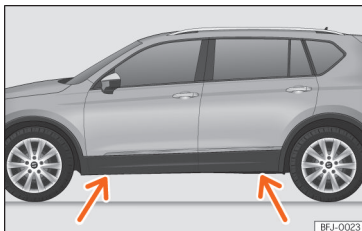

Fig. 254 Jack position points.
- Look on the strut for the mark of the jack support point (sunken area) closest to the wheel to be changed >>> Fig. 254.